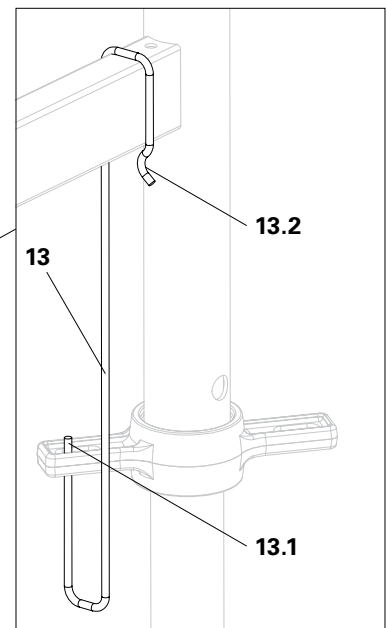

Fig. A1.05a
9. Secure the Base Spindle (5) using Spindle Safety Straps (13). Attach the long side (13.1) to the Quick Jack Nut, then hang the short side (13.2) over the frame strut. (Fig. A1.05a).